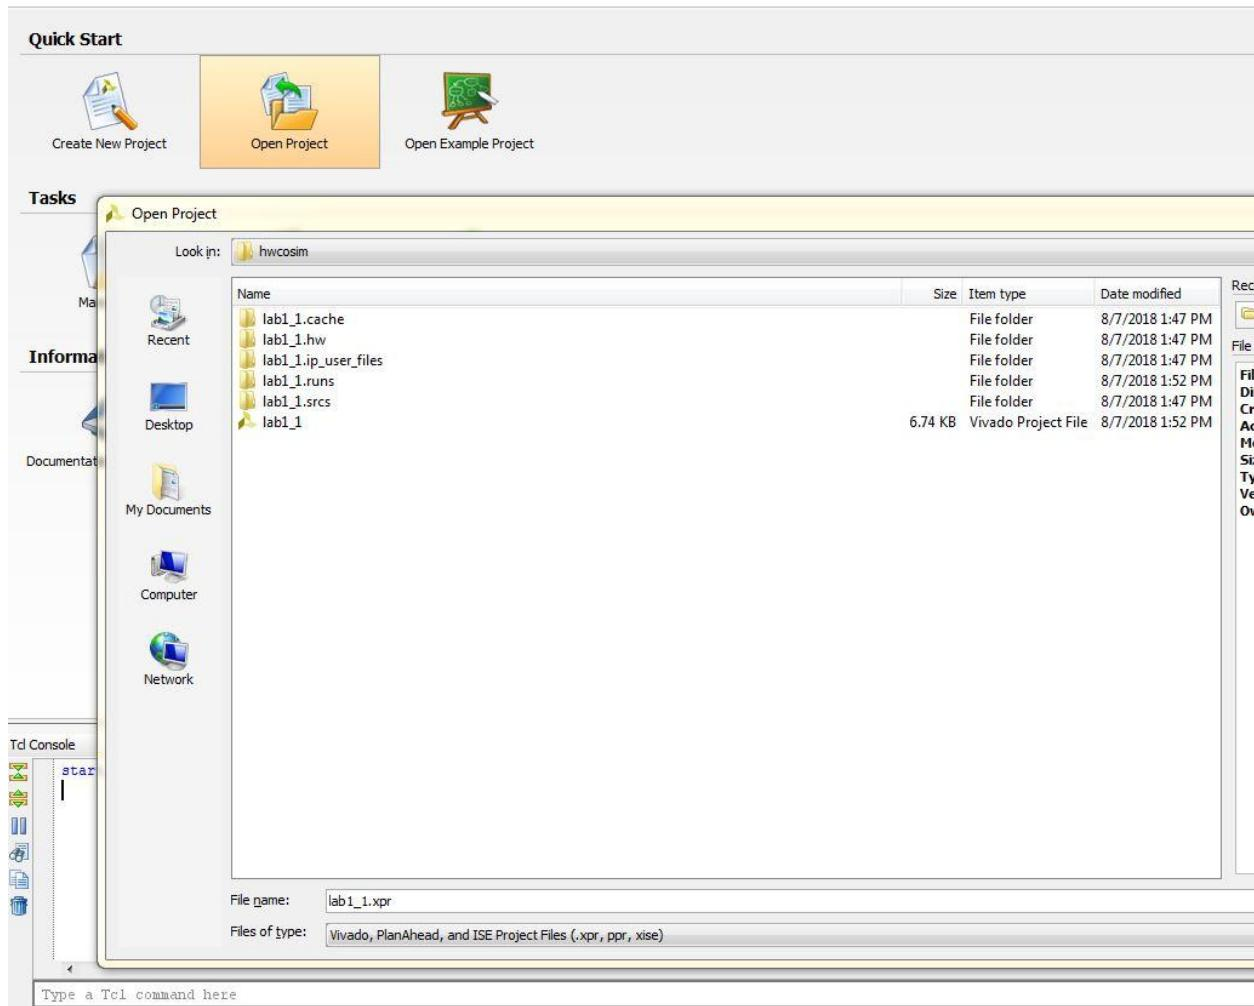

Figure 40: Open Project in Vivado.
- b. Quick Strat > Open Project > Lab1_1 (File Type: Vivado Project File) as shown in figure 40.